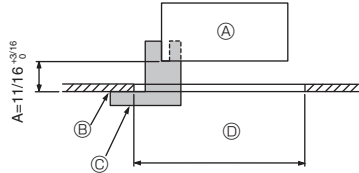
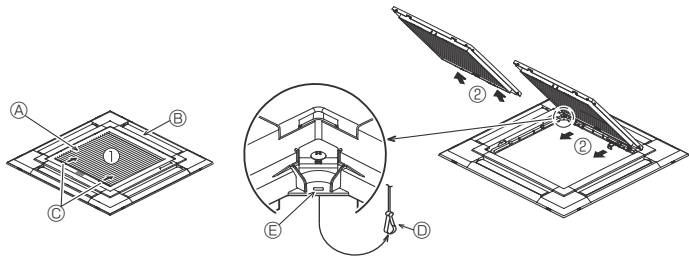
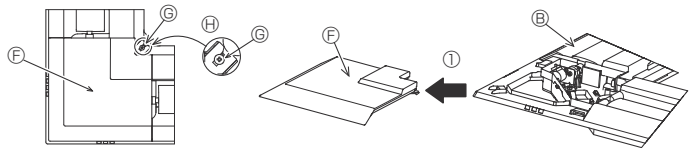

Fig. 9-2
Fig. 9-3
Fig. 9-4
①	Grille	1	950 × 950 (mm), 37-3/8 × 37-3/8 (inch)
②	Installation gauge	1	(Divided into 4 parts)
③	Screw (4 × 16)	1	For PLP-40EAU, PLP-40EAEU
④	i-see Sensor corner panel	1	For PLP-40EAEU
9.2. Preparing to attach the grille (Fig. 9-2)
- With the gauge ② supplied with this kit, adjust and check the positioning of the main unit relative to the ceiling surface. If the main unit is not properly positioned relative to the ceiling surface, it may allow air leaks or cause condensation to collect.
- Ⓒ Installation gauge ② (inserted into the main unit)
9.2.1. Removing the intake grille (Fig. 9-3)
- Slide the levers in the direction indicated by the arrows ① to open the intake grille.
- With the intake grille in the "open" position, remove the hinge of the intake grille from the grille as indicated by the arrows ②.
9.2.2. Removing the corner panel (Fig. 9-4)
- Loose the 4 screws on the corner. Slide the corner panel in the direction of the arrow ① in the figure and remove the corner panel.
[Fig. 9-3] [Fig. 9-4]